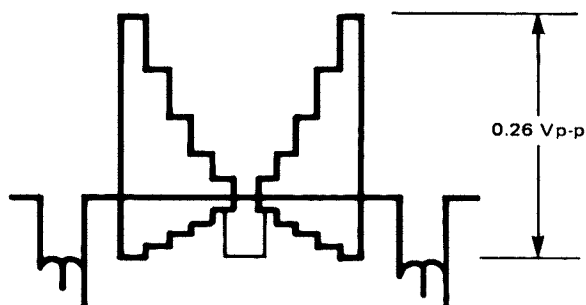

Figure 5-40. Gain 1 Adjustment, TP 301
STEP 4 Set iris opening exactly by connecting scope probe to TP301 and adjusting iris opening until 0.26 Vp-p is obtained. Leave setting at this point for G as well as R and B adjustments. See Figure 5-40.